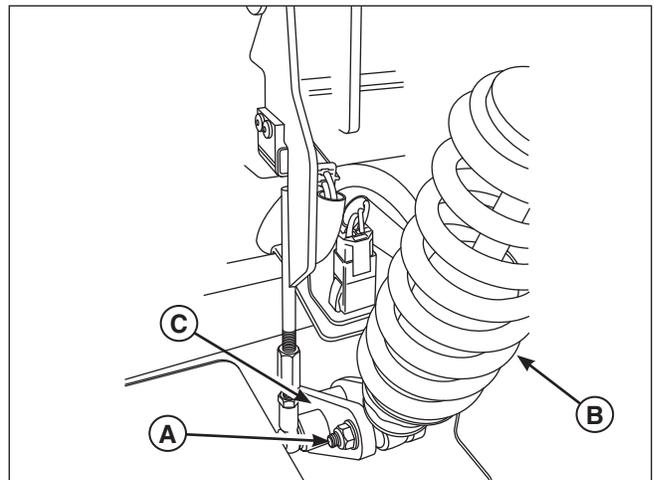

Figure 63. Bottom Shock Mount
10. Loosen and remove the 3/8 X 2-1/2" bolt, 3/8 washer and 3/8-16 nylock flange nut (A, Figure 63) that secures the shock (B) to the bottom shock mount (C).
3. Install the shock (**B**, **Figure 63**) to the bottom shock mount (**C**) and secure in place using the 3/8 X 2-1/2" bolt, 3/8 washer and 3/8-16 nylock flange nut (**A**).